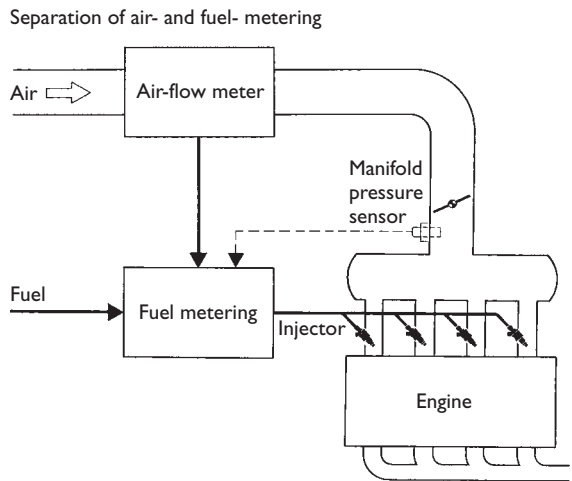

Figure 6.11 Multipoint fuel injection principle
- Multi point injection. This system uses a separate injector for each cylinder (Figures 6.11 and 6.12).